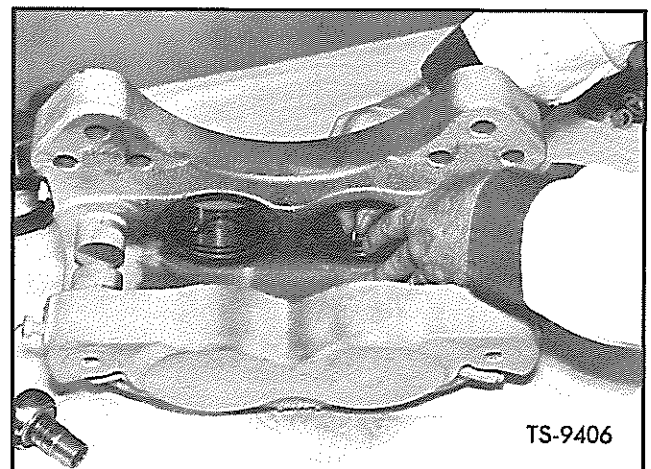

Fig. 23. Remove Piston Bore Packing
14. With the aid of a small piece of shim stock or other such device, carefully lift piston bore packings out of groove as shown in Figure 23. Extreme care must be exercised not to damage this seal if its reuse is intended, as any cuts or other abrasions will necessitate replacement of the seal.